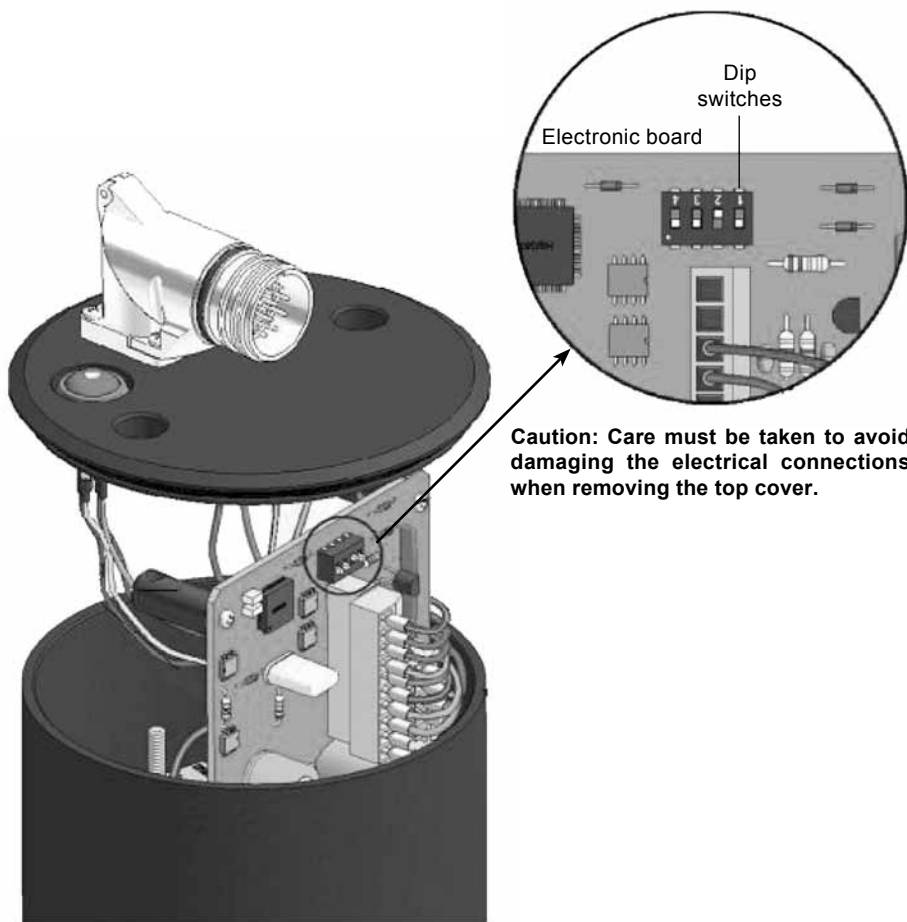

Fig. 14
- Carefully lift the electronic board from the two threaded bearings to access the dip switches (see Figure 14).
- **Note:** Switch 1 and 2 must not be altered. Reset switches 3 and 4 to the required settings. (see Figure 14).